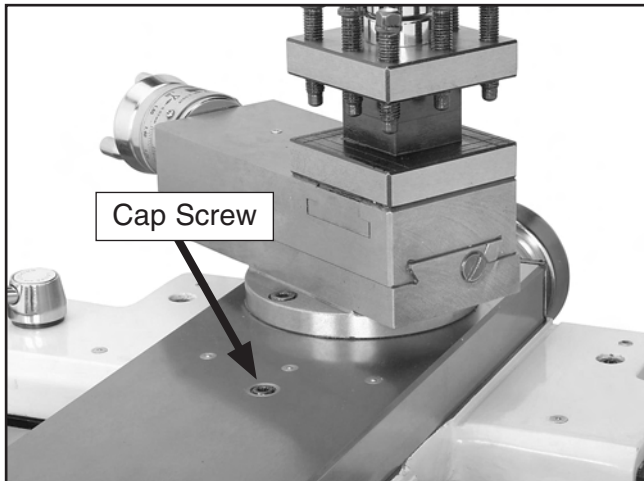

Figure 84. Cross feed backlash adjustment socket head cap screw.
2. Tighten the socket head cap screw in small increments (see **Figure 84**).